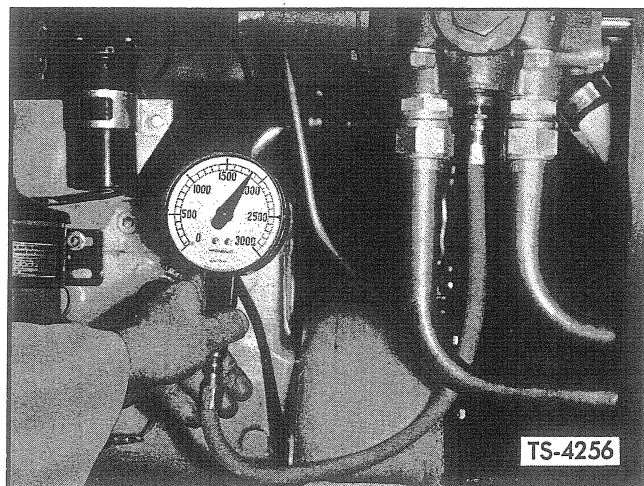

Fig. 27. Check Pressure — Boom and Bucket Control Valve
2. Remove pipe plug from control valve, and attach gauge as shown in Figure 27. Apply parking brake and block wheels.